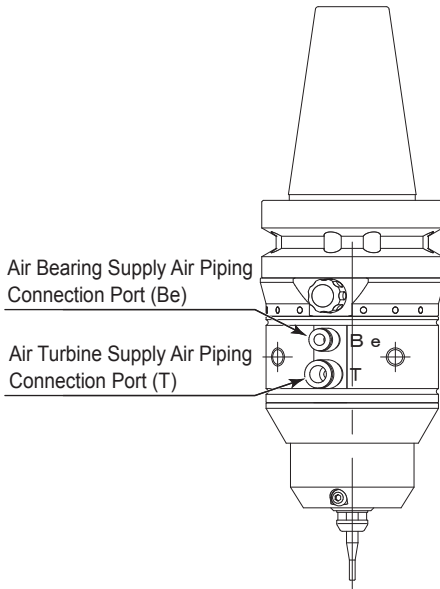

Fig. 3 Marking of the Piping Connection Section
- Ensure the air piping connections are correctly connected as instructed in this manual (Refer to Fig. 3).
- Be sure to install a proper piping system (refer to Fig. 3, 4 and Fig. 5) for a clean and dry air supply to the Air Turbine Spindle.
Securely connect the air supply piping, referring to " Fig. 3 Marking of the Piping Connection Section " section.